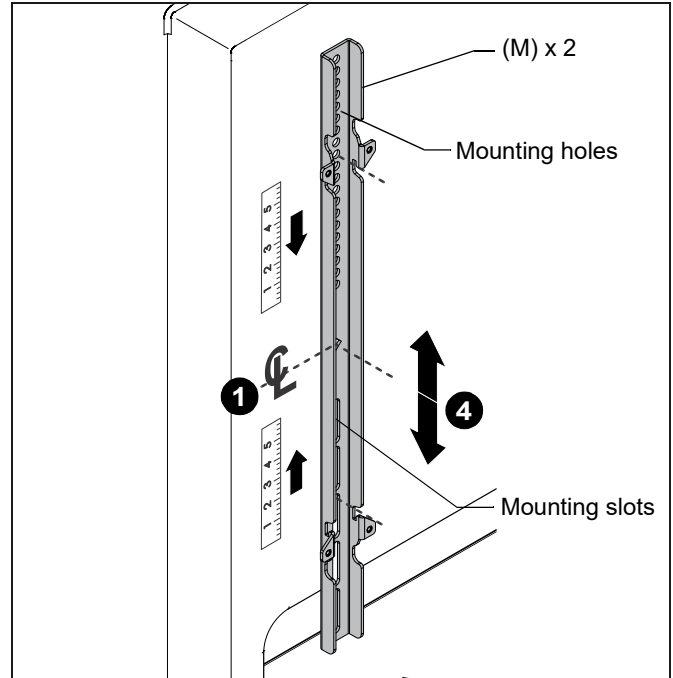

Figure 5
**NOTE:** For VESA patterns 400x400 or smaller, the display can be installed directly to the face plate assembly (J). Skip ahead to the **Attaching Display to Cart** section if this option is desired.
1. Determine and mark the vertical center position between the left-side upper and lower mounting holes in display. (See Figure 5)
2. Determine and mark the vertical center position between the right-side upper and lower mounting holes in display. (See Figure 5)
3. Orient vertical mounting bracket (M) so that mounting slots are on bottom and mounting holes are on top. (See Figure 5)
4. Align mounting holes in vertical mounting bracket (M) with upper and lower mounting holes in display.
5. Adjust vertical mounting bracket (M) position until mark made in Step 1 aligns with center mark in vertical mounting bracket (M).